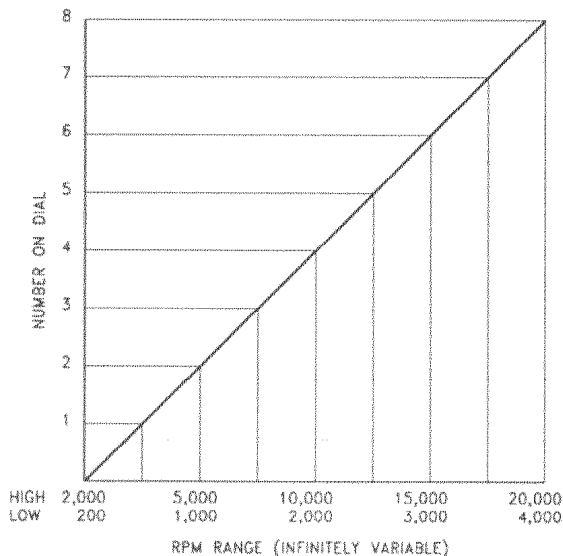

Figure 5. RPM spindle speed calibration graph.
The variable spindle speed control (9) is a black knob with graduations from zero to nine located on the left side of the head. The full wave thyristor direct current speed control is infinitely variable over two belt position ranges: low range is 200 to 4000 and high range is 1000 to 20,000 rpm. The spindle is also capable of speeds from 10 to 200 rpm at reduced torque. The approximate rpm calibration is graphed in figure 5.